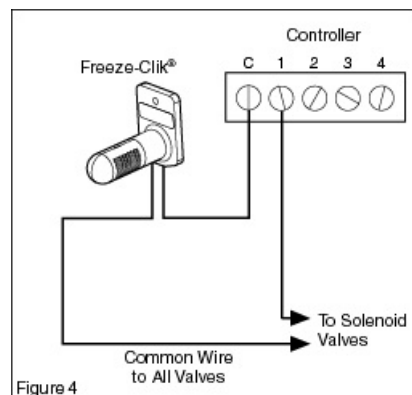

Figure 4
The Freeze-Clik freeze sensor is wired to the 24 VAC common ground circuit of the solenoid valves (as shown in Figure 4). Locate the common ground wire of the solenoid valves. If it is connected to the common terminal on the controller, disconnect it.
- [4] http://www.hunterindustries.com/sites/default/files/ts_freezeclik_fig4.gif